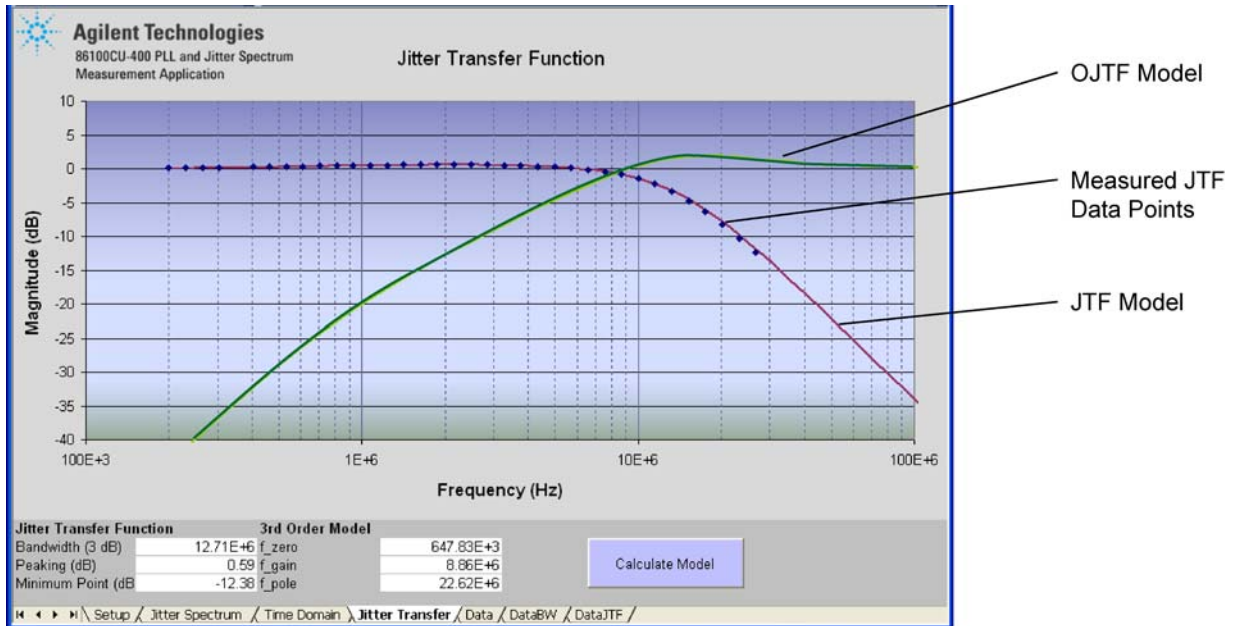

Figure 4-15. JTF Measurement Results
- 13 Click the **Calculate Model** button. A third-order type-2 PPL model is calculated from the data and displayed in the chart as shown in Figure 4-15. Notice that the model's f_{zero} , f_{gain} , and f_{pole} values are also listed on the chart. This software model may be used in your